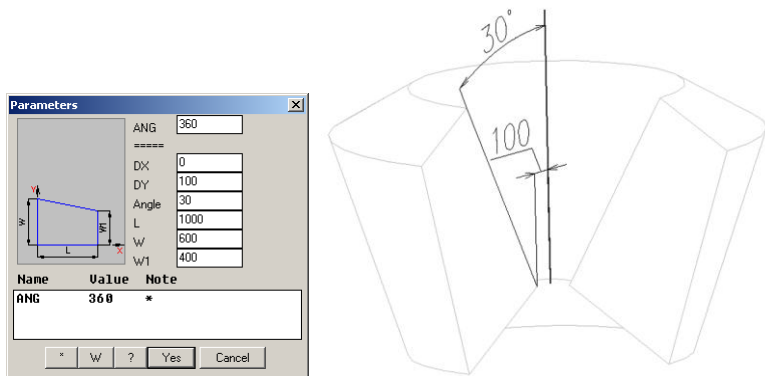

Fig. 3.33 Object creating with a vertical axis.
- Enter in the dialog window the cross-section parameters and sweeping parameters, see fig. 3.33: